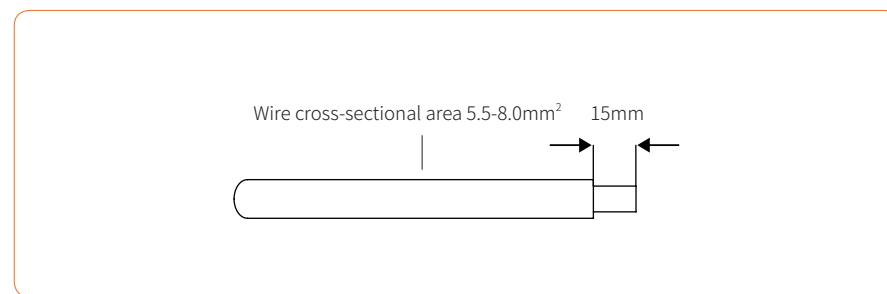

Figure 4-22
② Peel off the DC cable insulation sleeve for 7 mm, as shown in Figure 4-22: